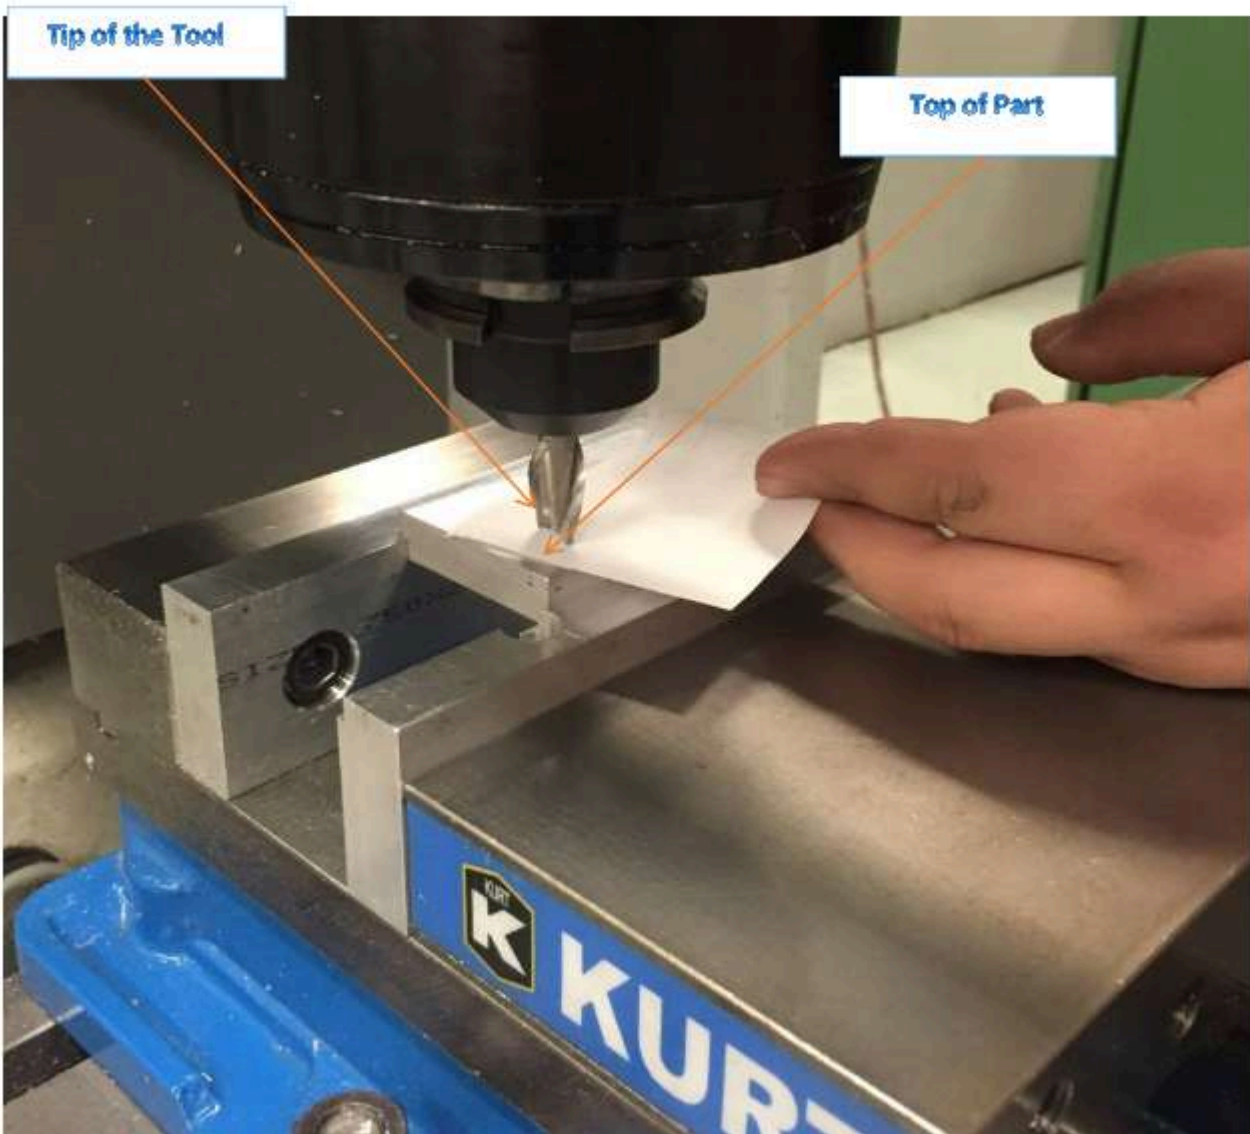

Figure 15. Setting Tool Offset (sheet of paper)
Setting Tool Offset. With the Z Axis at its home position, Tool Length Offset is measured from the tip of the tool (1) to the top of the part (2). See Figure 15.
1. Load the tool in the spindle (1).
2. Press (HANDLE JOG) (F).
4. Select between the X and Y axes (J) and handle jog (K) the tool near the center of the part.
5. Press (+Z) (C).
6. Handle jog (K) the Z Axis approximately 1" above the part.
7. Press (.0001/.1) (H) (The mill moves at a slow rate when the handle is turned).
9. Press (OFFSET) (D).
10. Press (PAGE UP) (E) until you display the Program Tool Offsets window. Scroll to tool #1.